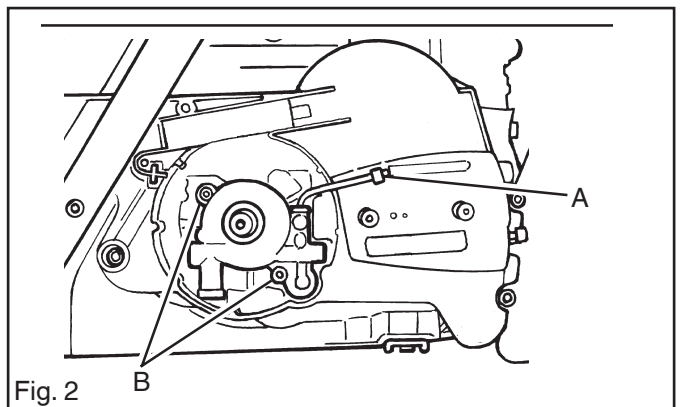

Fig. 2
3. Remove the two bolts (B) and lift the oil pump from the crankcase. See fig. 2.
4. Use a screwdriver to push up the oil pipe at (A). Lift the pipe and pull it out of the oil pump. See fig. 2